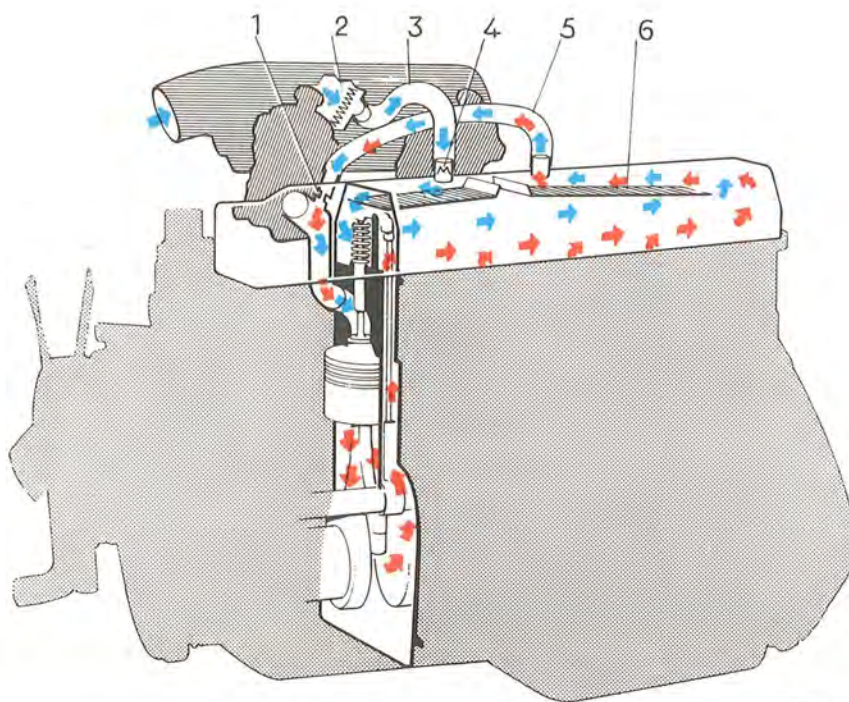

Fig. 2-13. Positive crankcase ventilation
Between the rocker arm casing and the intake manifold there is a hose (5, Fig. 2-13). It is connected to the intake manifold by means of a calibrated nipple (1). (This nipple should be cleaned every 40,000 km = 25,000 miles.) Between the rocker arm casing and air cleaner there is a hose (3) connected for the fresh-air supply. At the connection to the rocker arm casing there is a flame protector (4), which consists of a metal filter. The partial vacuum which arises in the